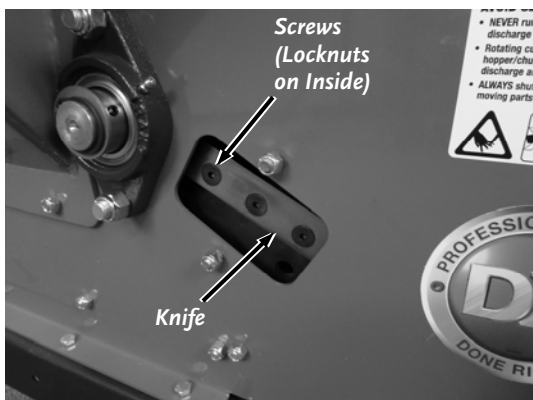

Figure 23
4. Rotate the Flywheel until the Knife is centered in the opening (**Figure 23**).